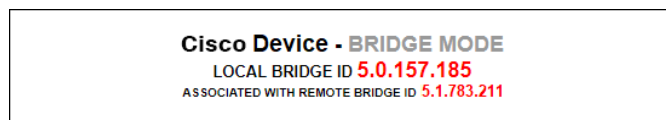

Figure 40. Configurator interface (Unit ID information)
- The unit ID number of the local unit is shown as the **LOCAL BRIDGE ID** (Figure 40 (page 99)).